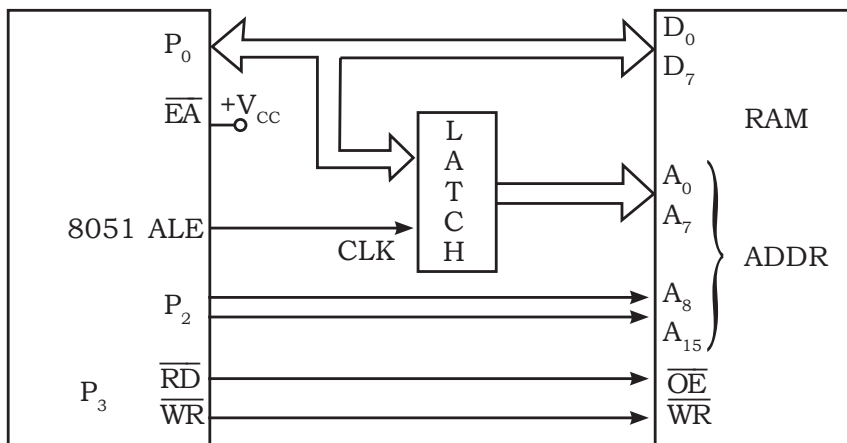

Fig.1.9.1: Interfacing 8051 with External Data Memory
- The Port 0 is a multiplexed address/data bus. The LATCH is used to **demultiplex address** and data bus. The LATCH will be enabled when $ALE = 1$, so output of LATCH has lower order address **A_0 - A_7** as shown in Fig 1.9.1.